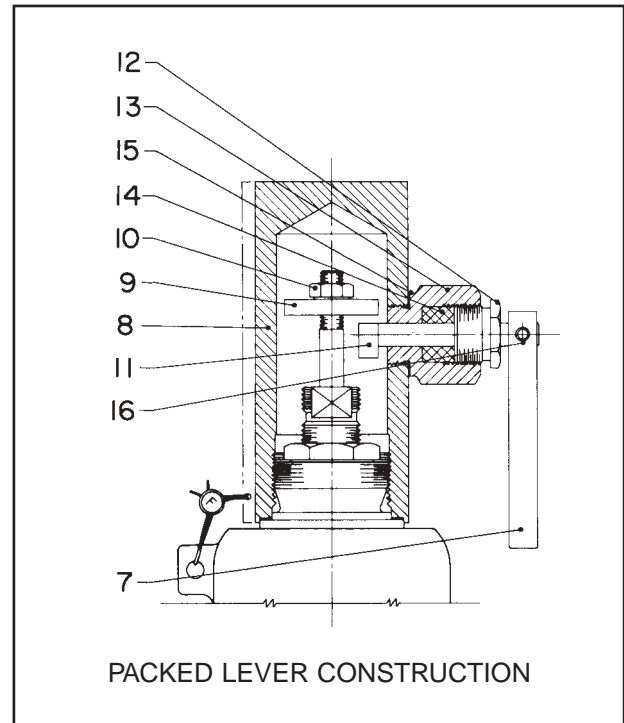

Figure 1.6
B. Packed Lifting Lever (Figure 1.6)